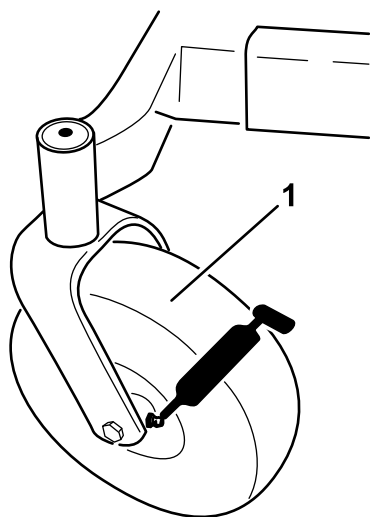

Figure 41
3. Clean the grease fittings (Figure 41 and Figure 39) with a rag.
4. Connect a grease gun to each fitting and pump grease into the fittings until grease begins to ooze out of the bearings (Figure 39 and Figure 41).